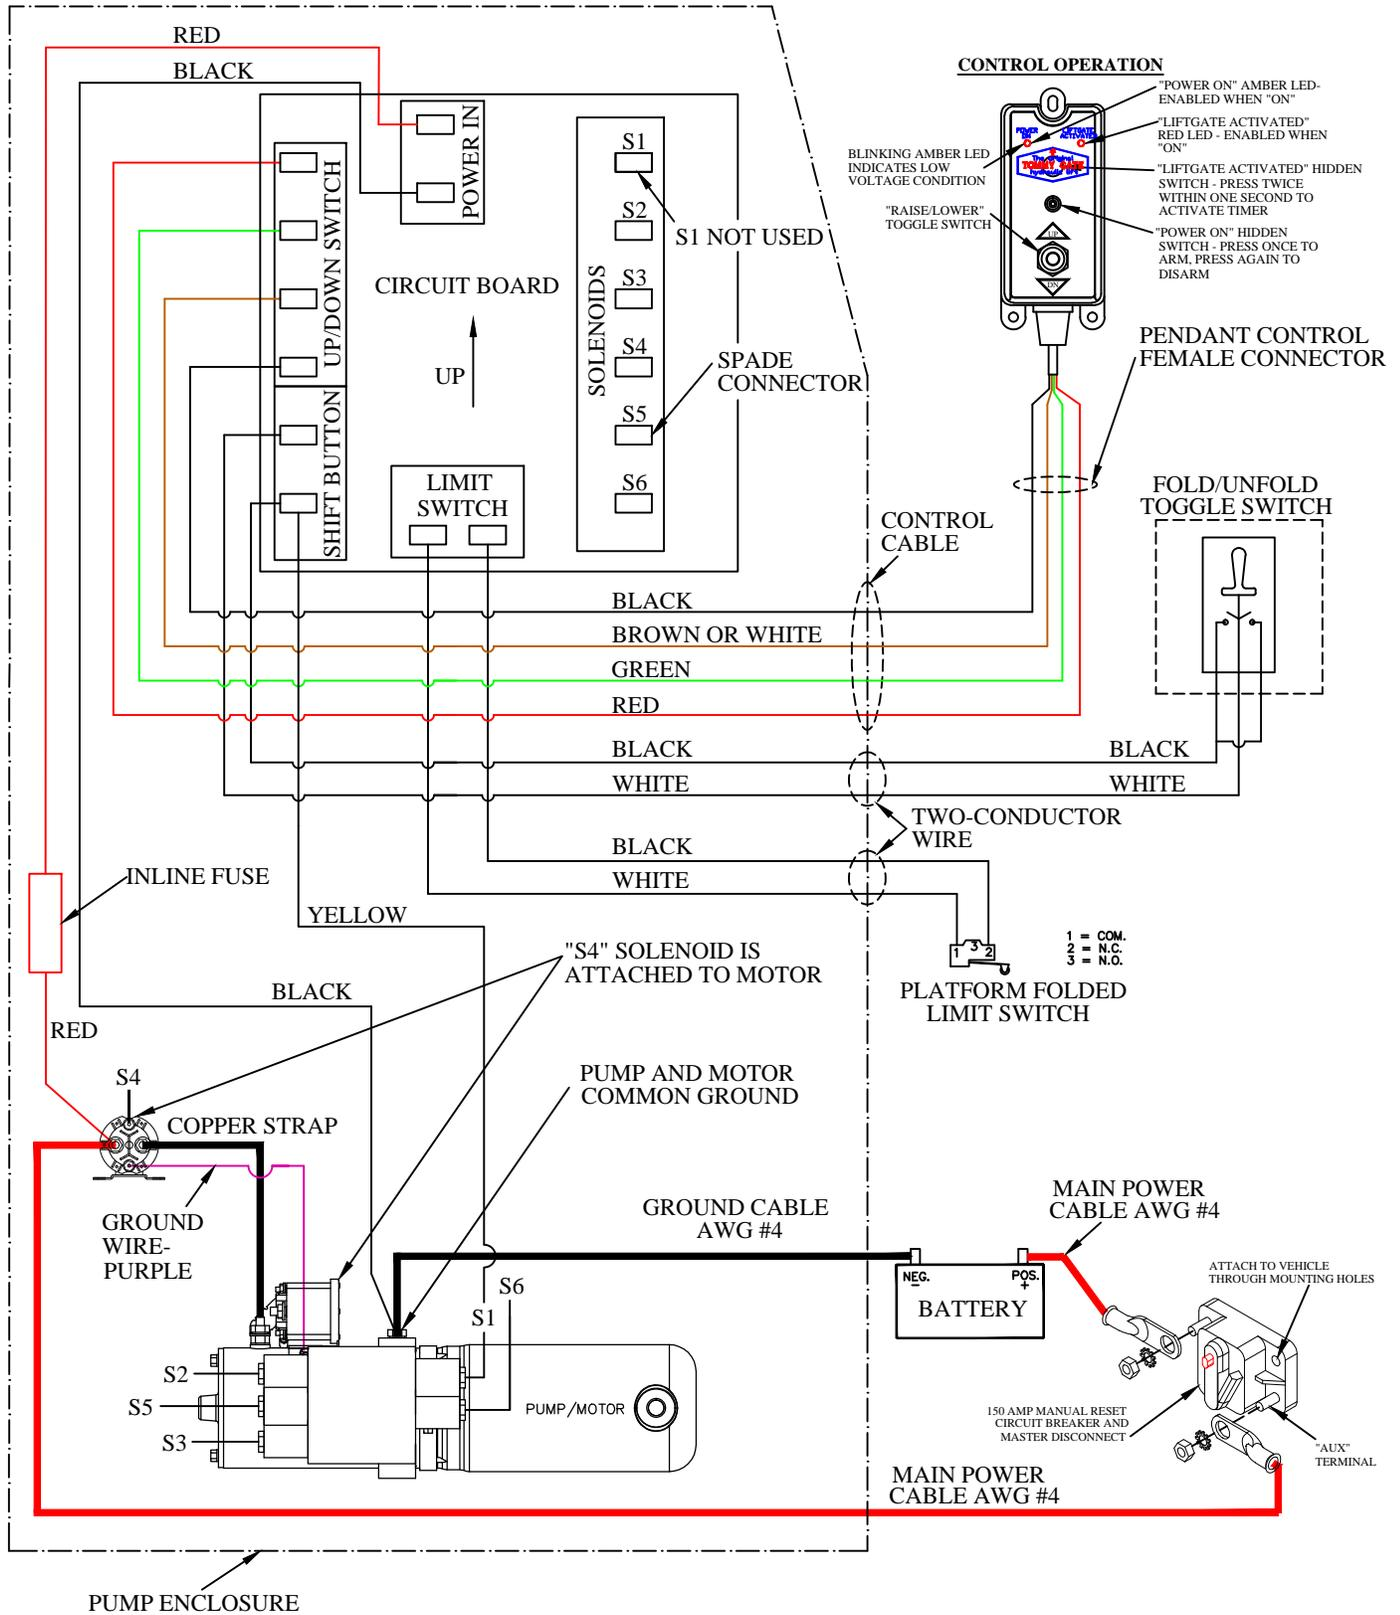

Figure 16: Wiring diagram.
13. **Connect** the circuit breaker and battery as outlined in the *Tommy Gate Recommended Electrical Wiring Guidelines* and wiring diagram (Figure 16).
14. **Connect** the wires to the toggle switch (Figure 16).
16. **Install** the supplied two (2) 1/4-20 self-tapping screws, through the female connector, through the mounting bracket, and into the door pillar.